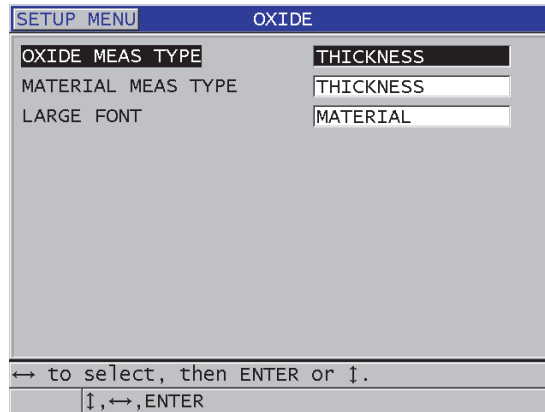

Figure 7-2 The OXIDE screen
9. In the **OXIDE** screen (see Figure 7-2 on page 112):